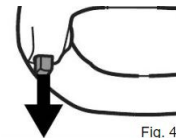

Fig. 4
2. To stop the mixer, release the On/Off trigger (Fig.4).